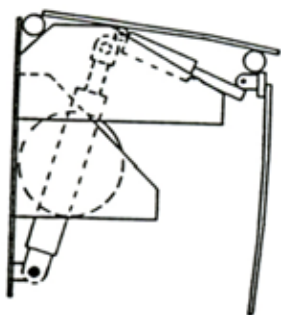
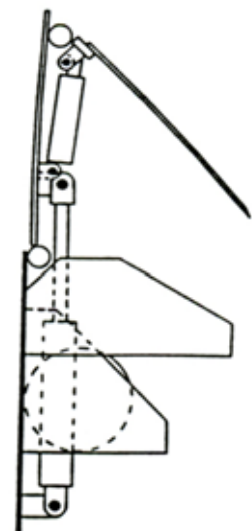

Figure 1
Figure 2
3. Always remove any end load while leveler is in stored position. (Figure 1).
6. To remove leveler from transport vehicle before departure, operate leveler "RAISE" (A) button until lip clears transport vehicle bed, folds up and returns, (Figure 2) then release button. Leveler will then return to stored position (Figure 1).